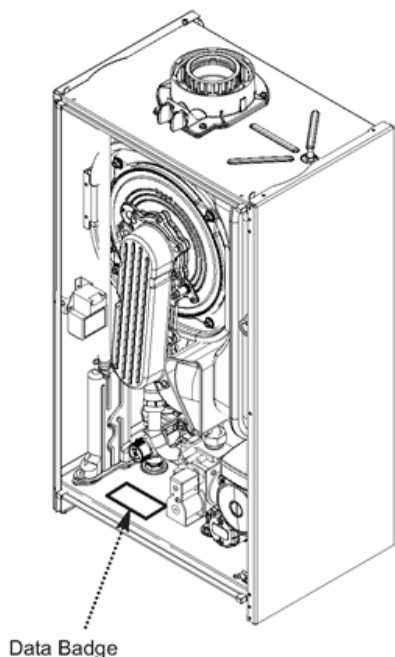

Fig. 6
- The boiler data badge gives details of the model, serial number and Gas Council number and is situated on the boiler lower panel. It is visible when the control box is lowered (Fig. 6).